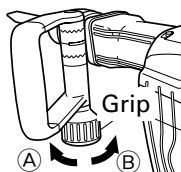

Fig. 5
- (1) Loosen the handle by turning the grip in the direction of **A** as shown in Fig. 5.